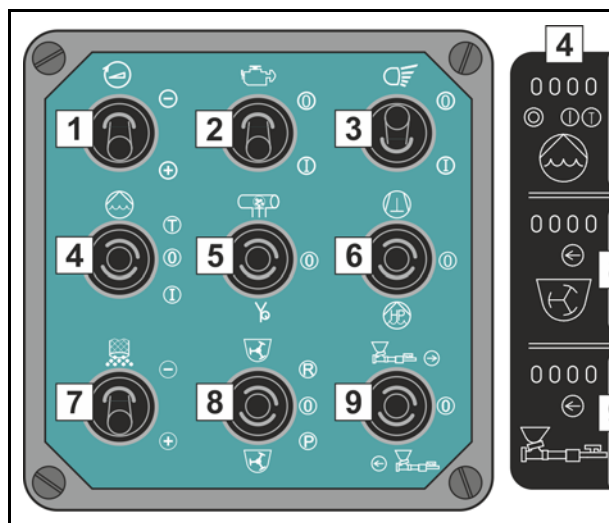

Fig. 470 Local control keypad
Pressing down the switch (6)  on the local control unit (**Fig. 470**) switches a directional valve, which directs the oil flow to the hydraulic motor of the high-pressure pump, and the pump starts pumping immediately.